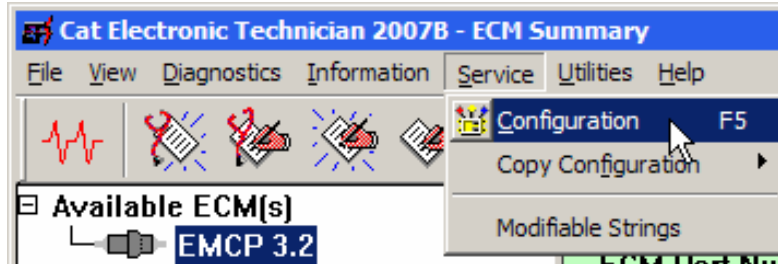

FIGURE 17 SELECTING CONFIGURATION
EMCP 3 setpoints can also be configured using the Caterpillar® Service Tool (ET). To access setpoints, enter the Configuration Tool by connecting to the EMCP 3 GSC and selecting Service > Configuration from the menu, FIGURE 17.